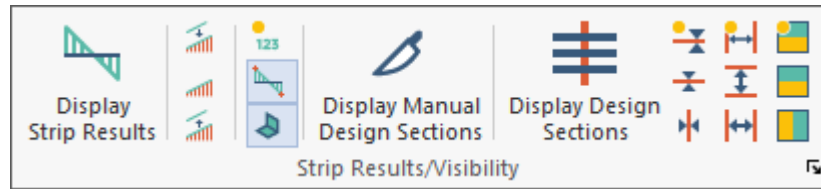

Figure 10.4-1 - Strip Results/Visibility Tool Panel
You can now review the design results for your model by use of *Floor Design* → *Strip Results/Visibility* (Fig. 10.4-1).
- **Action:** Select from the drop-down box one of the six actions that you would like to review. To view the curve for the selected action, the “Display Graphically” button has to be clicked (**Fig. 10.4-1**).